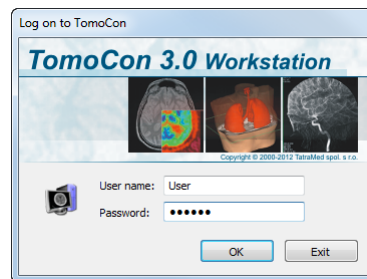

Figure 3 – Log On to TomoCon dialog
- Authorized access with user name and password; the user needs to enter his/her user name and password into the **Log On to TomoCon** dialog (see Figure 3) and then push the **OK** button in order to start the application.